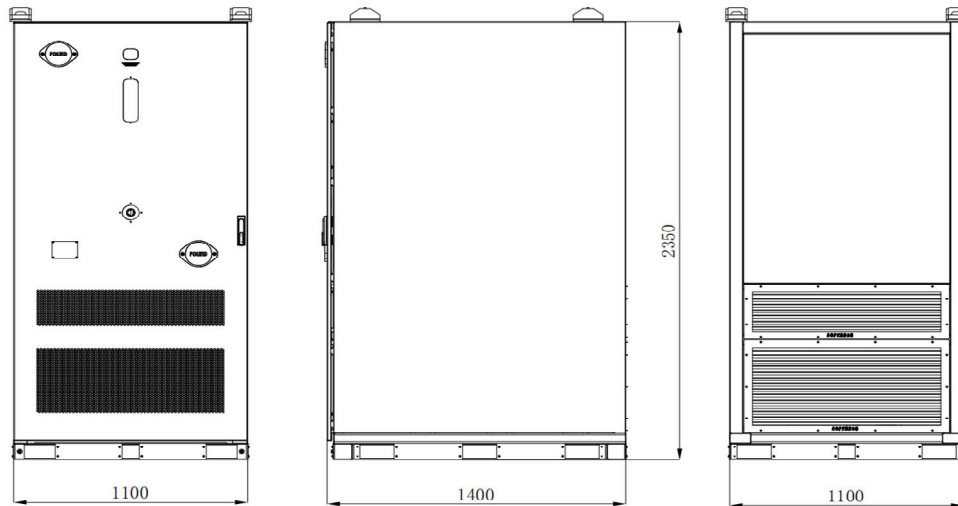

Fig. 3-2 Forklift Hole Diagram
2. When using a forklift for lifting operations, the fork should be fully inserted into the entire depth of the energy storage cabinet, with the fork length being no less than 1500mm. As shown in Fig. 3-2 below: